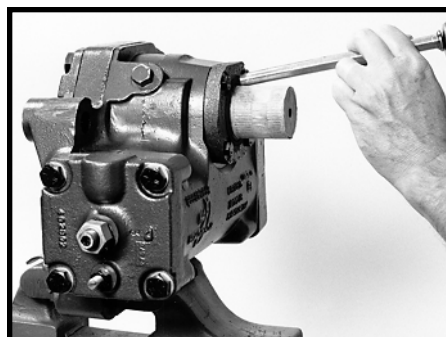

Figure 154
- Pack the cavity around the seal area of sector shaft (50) with clean high temperature industrial grease per Ross specification 045231, Mobil Temp 1 or 2 or equivalent. Assemble a **new** dirt and water seal (27) using a suitable blunt end drift. SEE FIGURE 154. Apply a generous amount of the same grease inside of the inner ring of protector boot (63) Assemble protector boot (63) over sector shaft (50) and trunnion cover (26), locating the grease fitting hole toward the input shaft end of gear assembly. Assemble grease fitting (64) into its hole in the protector boot if required. SEE FIGURE 155.